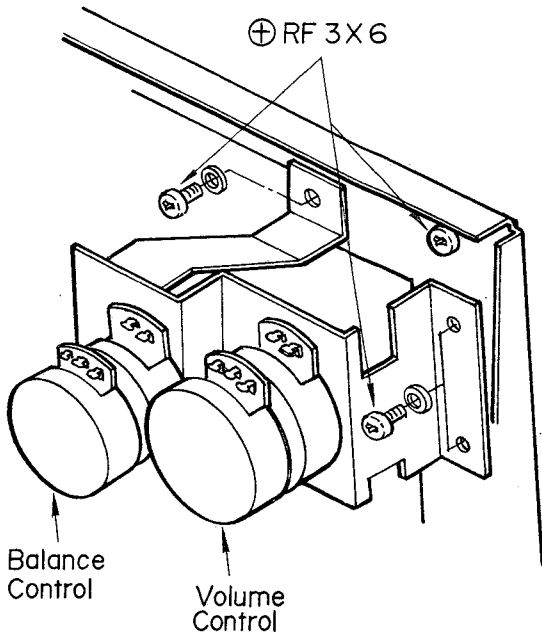

Fig. 2-4
- (c) Remove the three Phillips-head screws (+ RF 3φx6) from the Volume/Balance Control Bracket. See Fig. 2-4.